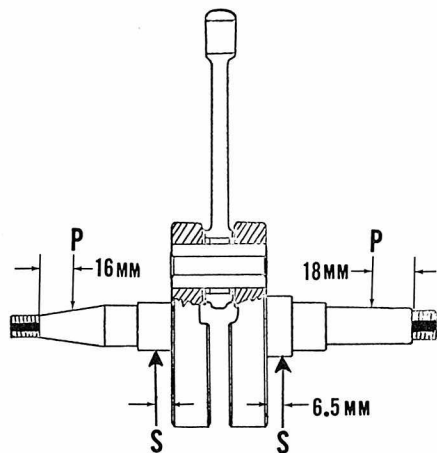

Fig. HK8—Crankshaft eccentricity is measured at points (P). Crankshaft should be supported at points (S).
**CONNECTING ROD AND CRANK-SHAFT.** The crankcase halves must be separated to remove the crankshaft. Connecting rod, crankpin and roller bearings are removed by pressing crankshaft apart. Crankshaft should be disassembled ONLY if required tools are available to correctly check and align the reassembled crankshaft. Maximum eccentricity allowed when checked at points (P—Fig. HK8) is 0.0008 in. (0.02 MM). Crankshaft should be supported at points (S) located 0.256 in. (6.5 MM) from faces of crankshaft counterweights. Connecting rod should have 0.002-0.004 in. (0.05-0.10 MM) side play on crankpin. Crankshaft counterweights should be 1.5621-1.5700 in. (39.8-40.0 MM) between outside faces.